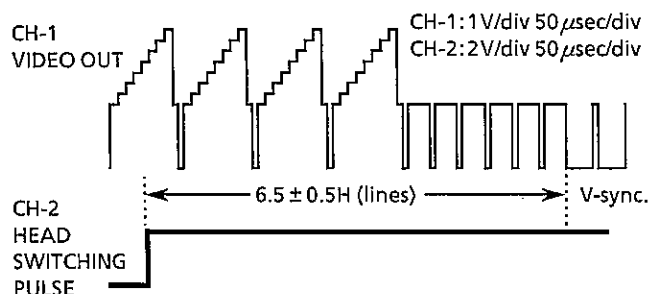

Figure 2-1.
4. Adjust R7701 so that the leading edge of the head switching pulse is $6.5H$ (lines) ahead of the vertical sync as shown in Figure 2-1.